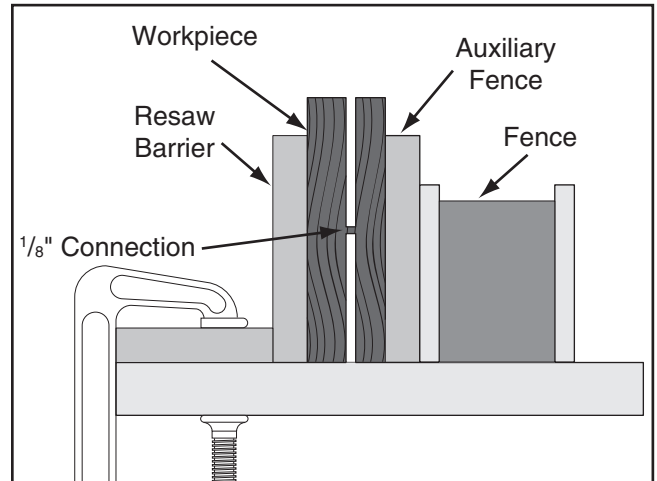

Figure 57. Ideal completed resaw cut.
4. Place the workpiece against the fence and slide the resaw barrier against the workpiece. Now clamp the resaw barrier to the top of the table saw (see **Figure 57**).
6. Raise the blade approximately an inch, or close to half the height of the workpiece (**Figure 57**), whichever is less.
9. Repeat **Steps 6–8** until the blade is close to half of the height of the board to be resawn. The ideal completed resaw cut will leave an $\frac{1}{8}$ " connection when the resawing is complete as shown in **Figure 57**. Leaving an $\frac{1}{8}$ " connection will reduce the risk of kickback.